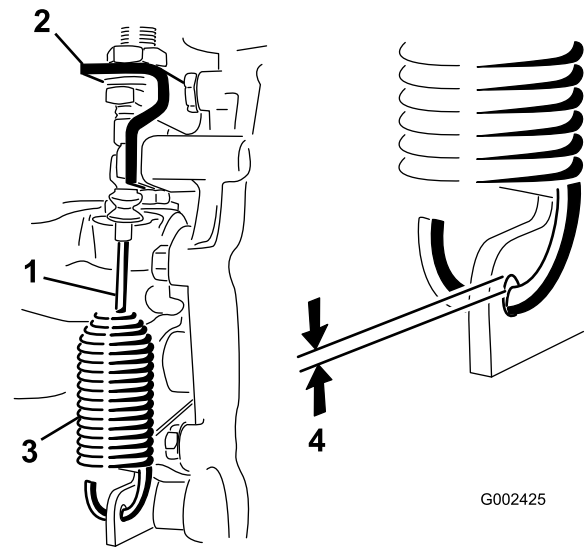

Figure 51
1. Remove the clevis pin securing the High—Low cable to the transaxle (Figure 51).
2. Loosen the jam nuts securing the differential lock cable to the bracket on the transaxle (Figure 51).